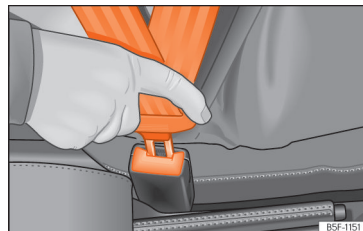

Fig. 10 Insert the latch plate of the seat belt into the buckle.
- Engage the latch plate in the buckle of the corresponding seat » » » **Fig. 10**.